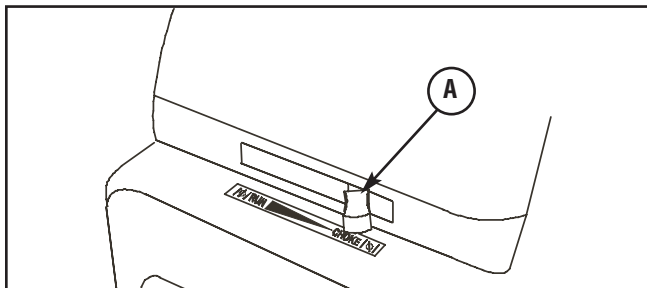

Figure 19 — Typical Engine Choke Control
- Move choke lever (A) to “Choke” | \ | position (Figure 19).